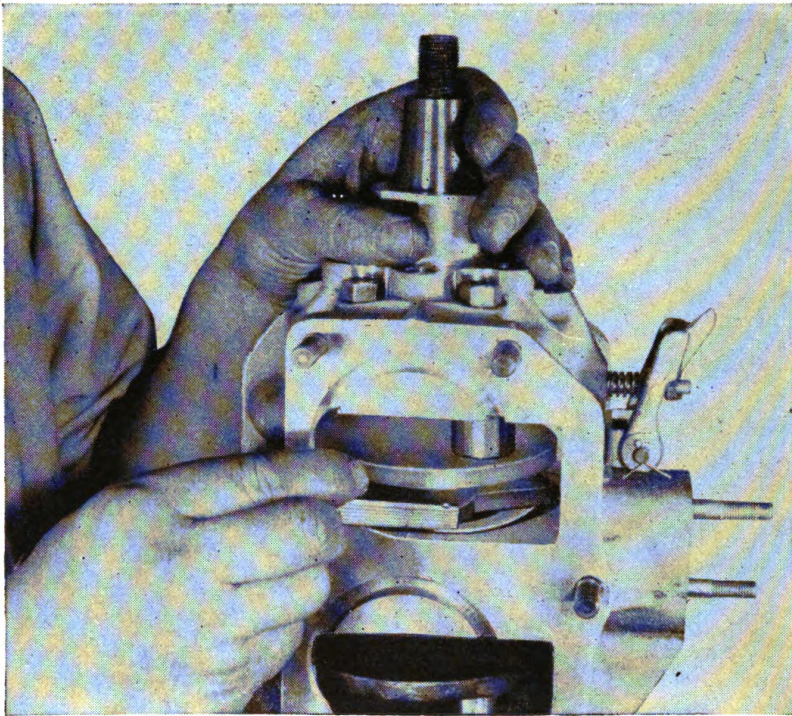

Figure 70. Checking clearance of crankshaft and centerbearing. (Clearance should be 1.1809 to 1.1813 inches for top and bottom of centerbearing.)
(11) Turn adjusting screws to the right a three-quarter turn each. Be careful all screws are turned the same amount, or ball bearing will not line up. Now draw down the six nuts that hold the clamp ring. With feelers, check clearance between crankshaft and center bearing. Clearance on top of center bearing should be 0.001 to 0.0002 more than on the bottom of center bearing. (See fig. 70.)
(12) If shaft is too high, rub off pencil mark on crankcase and mark again at screw slots. Start from that point, loosening locknuts and